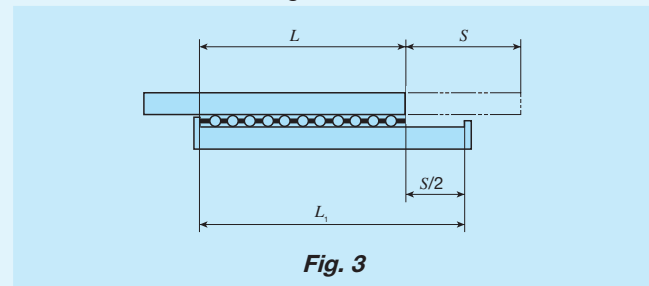

Fig. 3
Note (1) For hardness factor, refer to Fig. 3 in page III-5.
Movement in a linear direction as in Fig. 3 will move the Flat Roller Cage in the same direction by one half of the movement amount. Therefore, way length, stroke length and retainer length are correlated as follows: